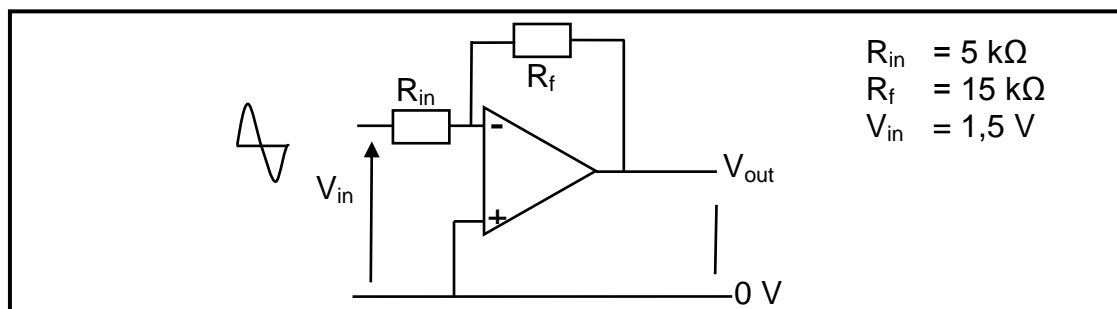

FIGURE 7.1: OP-AMP CIRCUIT
7.6 Study FIGURE 7.1 and answer the questions that follow.
7.6.1 Identify the op-amp circuit in FIGURE 7.1. (1)